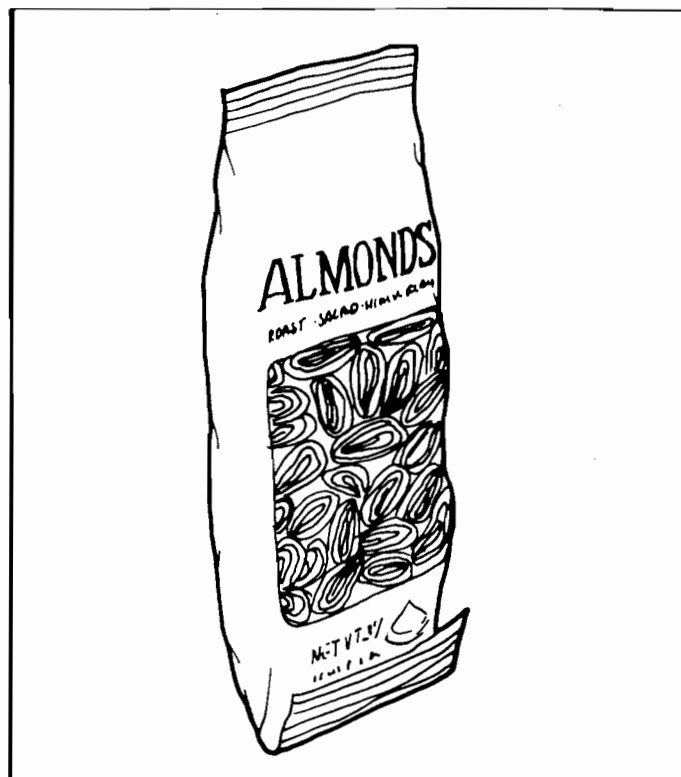

Figure 8. FOLD BAGGED ITEMS BOTTOM EDGE FORWARD AND UP.
9. **BAGGED ITEMS** in the 8-selection shelves if not loaded properly could be a problem. The sealed edge of the bag may get under the spiral wire causing the product to hang up after it has been vended. It is recommended that the lower edge of these types of product be folded forward and up (see Figure 8) next to the product before inserting into the spiral space. It is also recommended to use an 18 count spiral for bagged items because of the product settling to the bottom of the package.